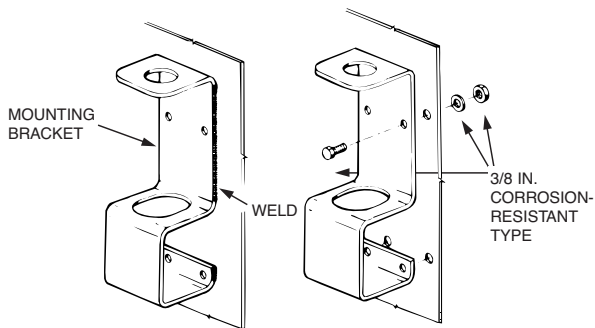

FIGURE 20
2. Weld or bolt mounting bracket to the selected surface. See Figure 20.